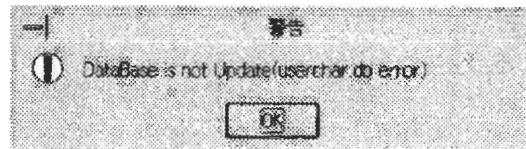

Figure 7-6
If the “Bank Append (R)” operation results in display of the alarm dialog shown in Figure 7-6, this indicates that an attempt to read the file into the BANK results in failure.